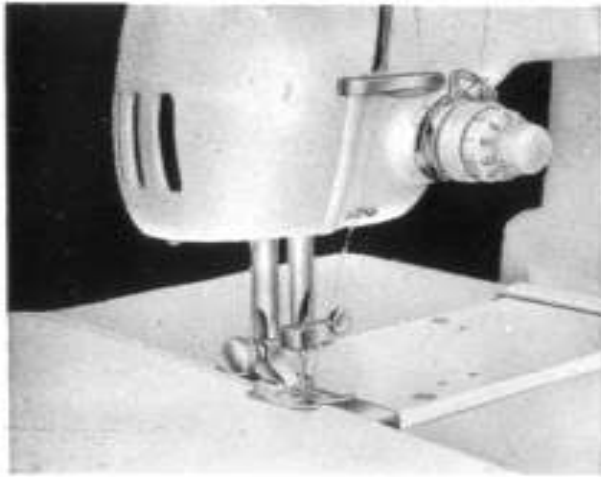

Fig. 36
the material. See Fig. 36.
7. Make the stitch as shown in Fig. 36 B.
8. After stitching is finished, unfold the material as shown in Fig. 36 C and you will have the Blind Stitch.